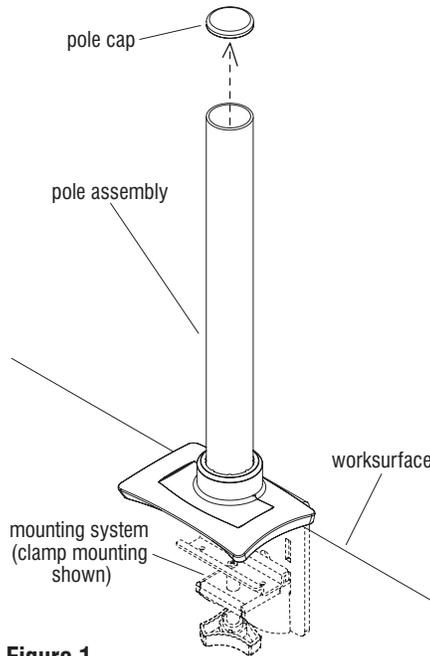

Figure 1
3. Twist the pole cap off the pole assembly, but save to place back on pole once all components have been installed (Figure 1).